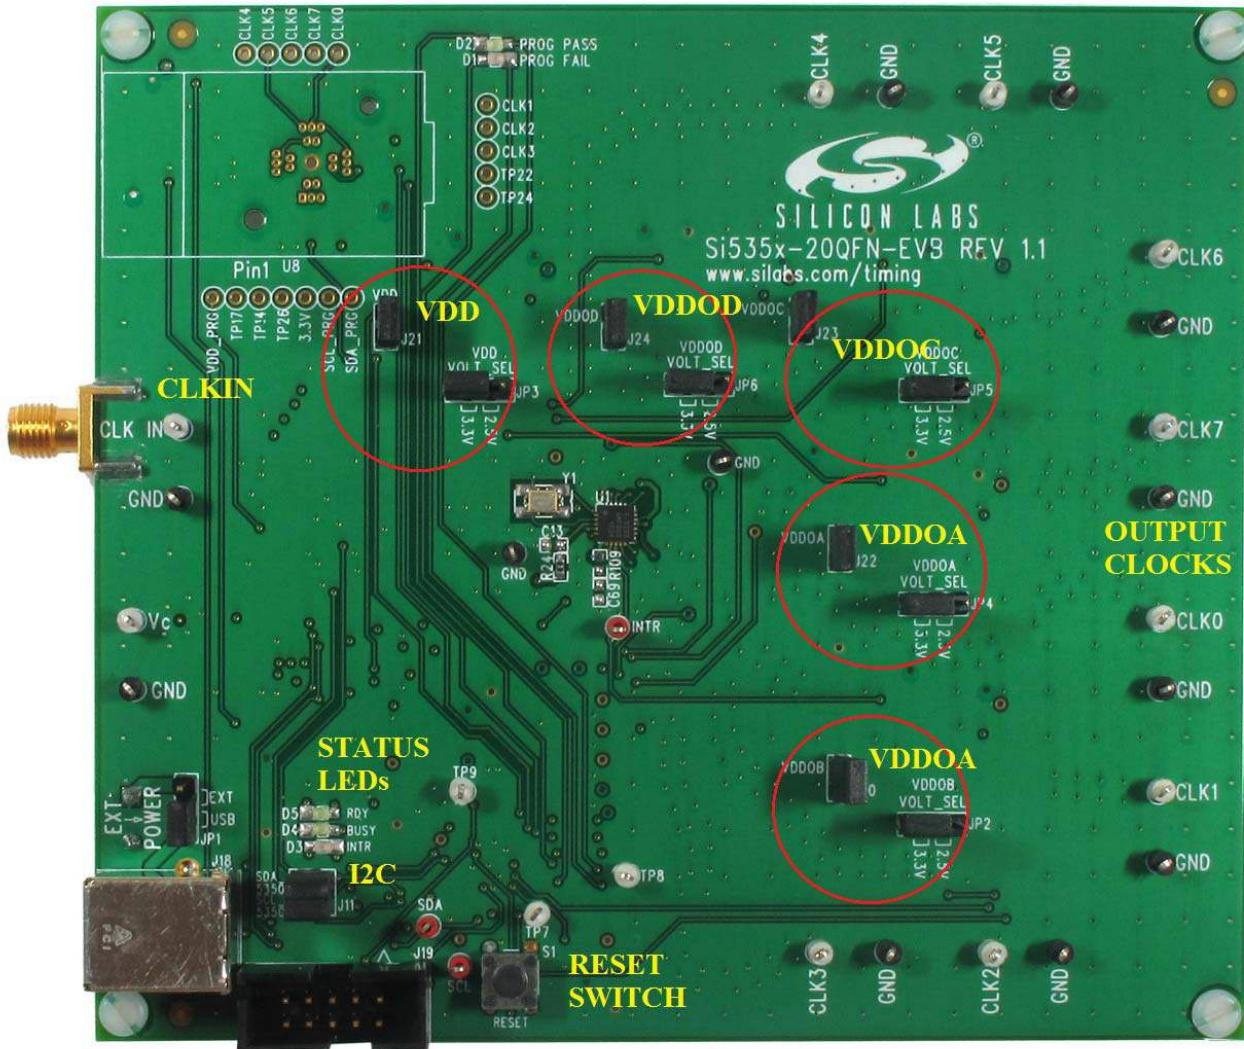

Figure 1. EVB Features
Figure 1 highlights the main features of the EVB. The onboard MCU is responsible for programming the Si535x timing IC, measuring the device's current consumption reported in the ClockBuilder™ Desktop, managing power, and controlling status LEDs. VDD and VDDO jumpers allow the option of choosing between 2.5 V and 3.3 V or powering the device with external supplies (see "2. Jumpers" for details). I²C jumpers allow the Si535x to be disconnected from the I²C bus, allowing external control from another I²C master.
- **EXP POWER**—Allows user to select between 5 V USB supply and 5 V external supply on J17. See Figure 1 for jumper locations.